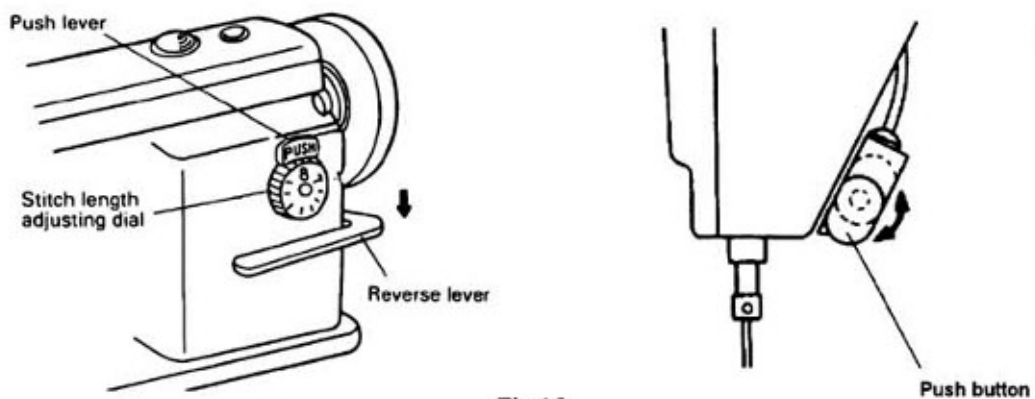

Fig.15
14. Adjustment of stitch length and reverse sewing (Fig.15):